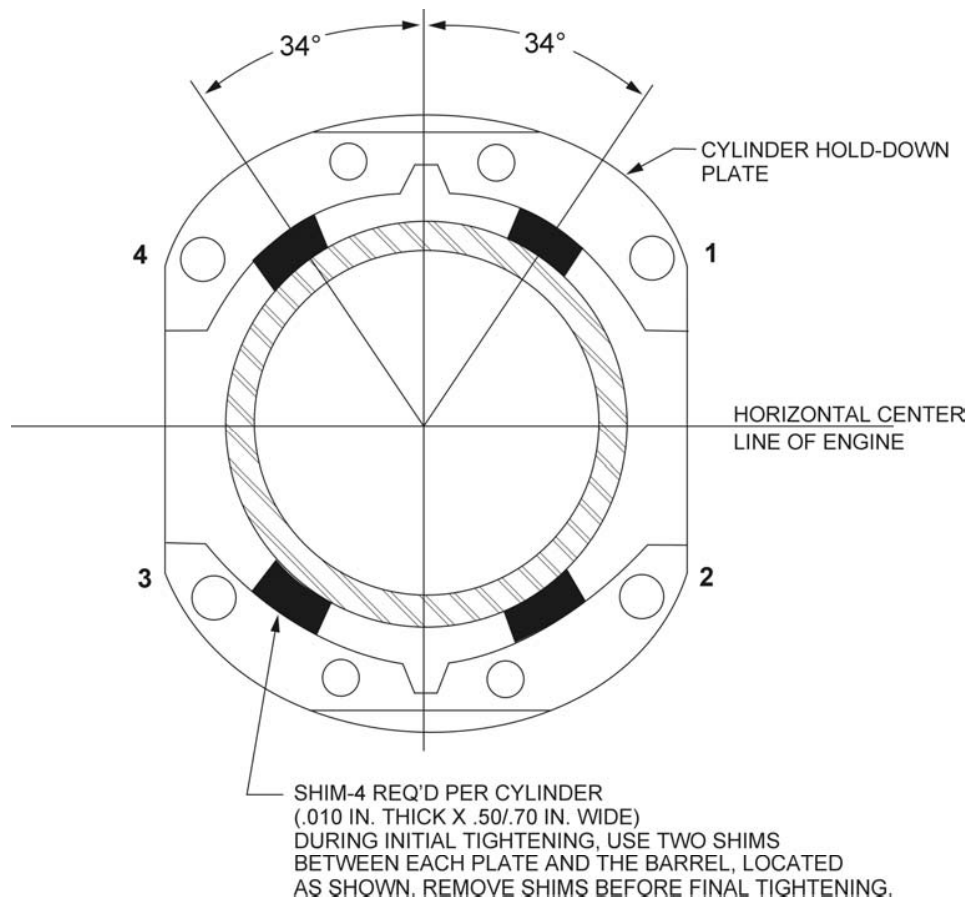

Figure 5-2. Location of Shims Between Cylinder Barrel and Hold-Down Plates (where applicable) and Sequence of Tightening Cylinder Base Hold-Down Nuts
- (a) *Engines Using Hold-Down Plates* – Install shims between cylinder base hold-down plates and cylinder barrel, as directed in Figure 5-2, and tighten ½ inch hold-down nuts to 300 in.-lbs. (25 ft.-lbs.) torque, using the sequence shown in Figure 5-2.